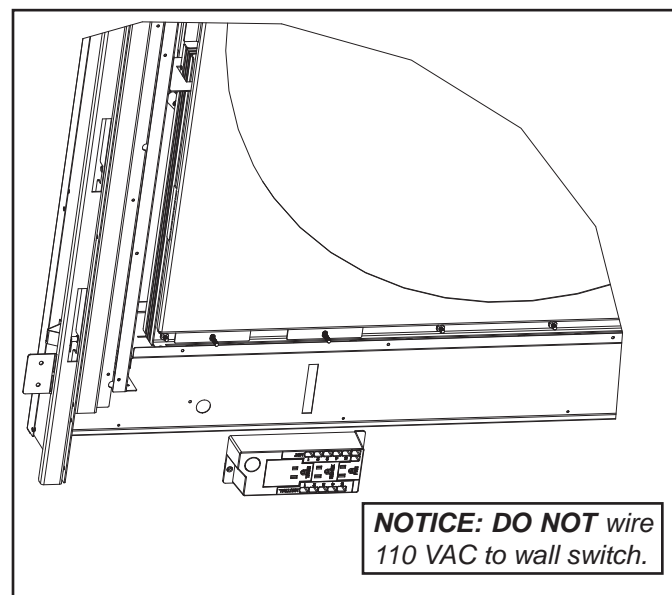

Figure 12.4 Junction Box Detail
- Remove the screw attaching the junction box/receptacle to the outer shell, rotate the junction box inward to disengage it from the outer shell. See Figure 12.4.
- Pull the electrical wires from outside the appliance through the opening into the valve compartment and secure wires with a Romex connector. See Figure 12.4.
- Pull the electrical wires through the knockout and secure the wires with a Romex connector. See Figure 12.4.